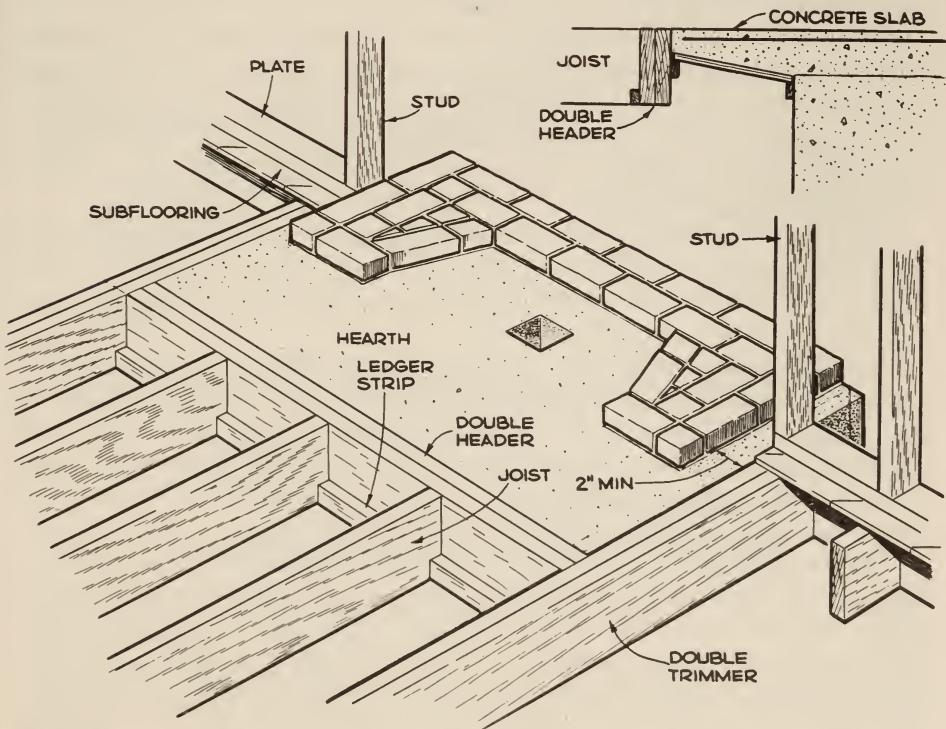

Fig. 10. Framing a fireplace opening with double header and double trimmer joists. Detail at top shows how concrete slab is poured.
**Framing Floor and Ceiling Openings.** A conventional fireplace hearth, inside chimney, or stairway requires a hole in the floor or ceiling, and this opening must be framed within the joists. Fireplace framing is shown in Fig. 10. However, there are prefabricated fireplace units that permit installation where no such provision has been made for a concrete hearth slab.